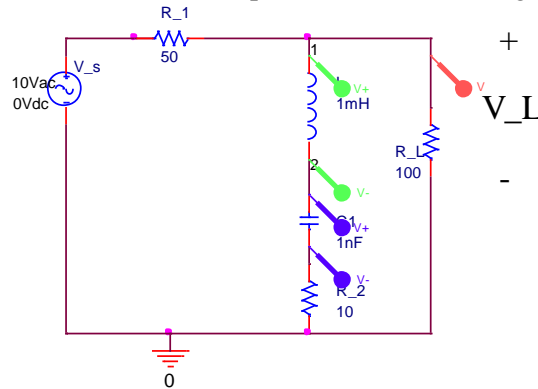

Figure 1. Circuit 1 schematic with probes added.
12. Implement the circuit as shown in Figure 1. The parts list is shown in Table 1.
16. Add a voltage marker by clicking , which is the voltage marker, and put it at the node as shown by Figure 1. Note that a voltage marker indicates the node voltage of the marked position with respect the GND node.
17. Add a “voltage differential marker” by clicking , and put it at the two ends of the inductor as shown in Figure 1, as well as one to the capacitor. To add a “voltage differential marker”, you need to click two ends of a circuit element. The first click is the V⁺ end, and the second click is the V⁻ end. Note that a voltage differential marker provides the voltage level across a circuit component or series of components, which needs to be connected to a wire, bus, or pin, or else, it will be ignored.
- Draw (or include an image of) the circuit given in figure 1. For this exercise, we used differential markers to read the voltage across individual components except for the load resistor, R_L . Why is it necessary to use differential probes for the inductor and the capacitor but not for this resistor? Explain briefly.